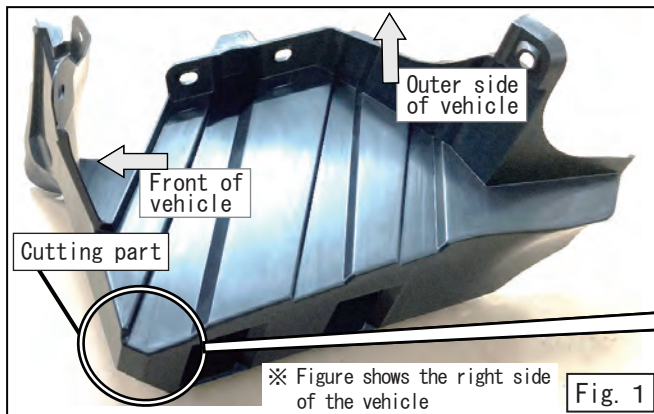
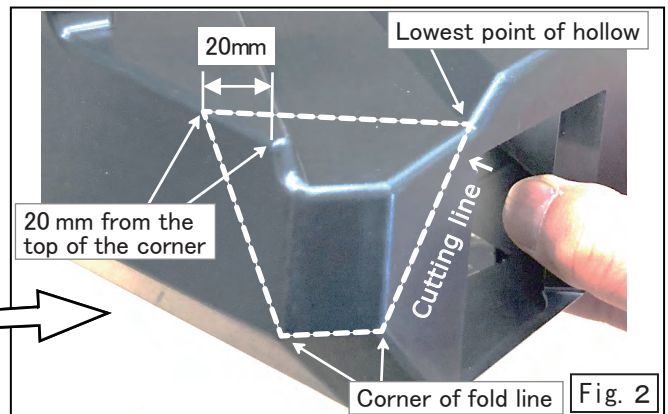

Fig 1. Stock rear bumper side cover
Fig 2. Where to cut and the detailed part of the processing
- (1) Mark the cutting line on the stock rear bumper side cover of both sides referring to Fig. 1 and Fig. 2.